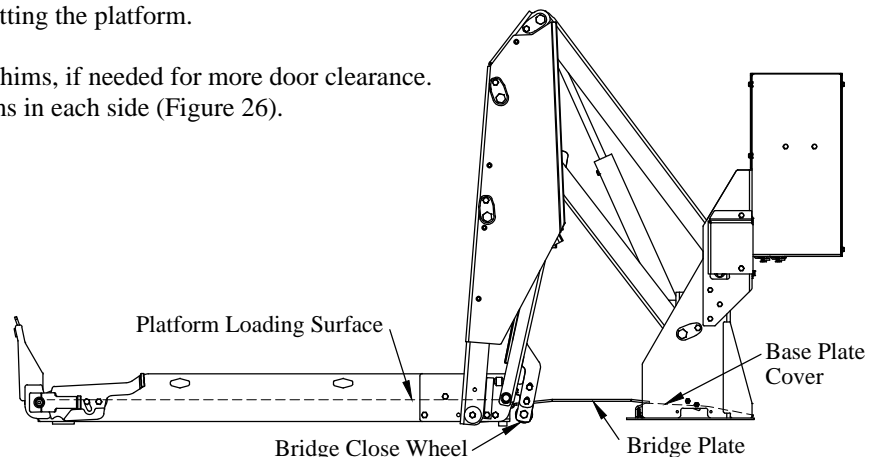

Figure 25: Platform and bridge plate.
3. **Check** if the platform loading surface is even with base plate cover (Figure 25).
4. **Position** the platform so that it is even with the top of the base plate cover (Figure 25).
4. **Raise** the platform as high as it will go with just the pendant toggle (Figure 25).